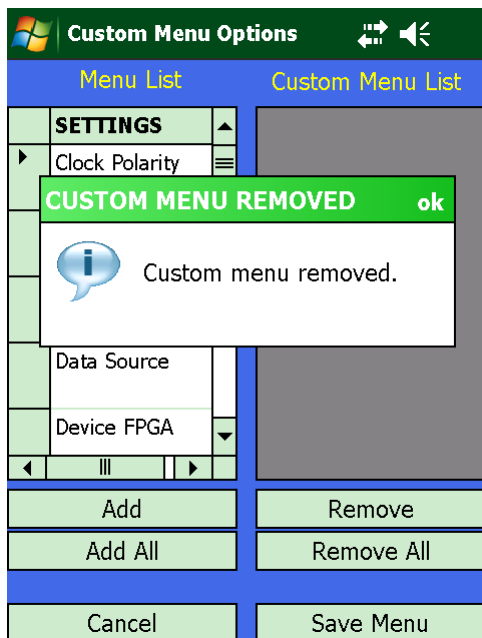

Figure 41: Custom Menu Options Screen--Custom Menu Removed Message
6. A Custom Menu Removed message displays, as shown in Figure 41, to confirm that the custom menu was successfully deleted from the Handheld Programmer.